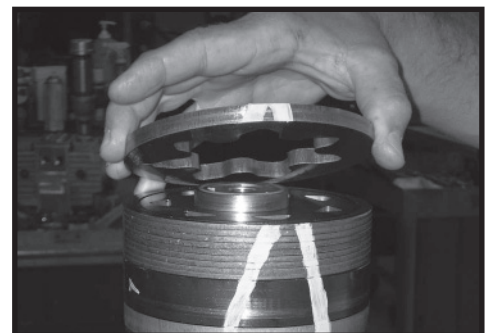

Figure 10
**NOTE: A polished pattern (not scratches) on the cover from rotation of the commutator (5) is normal. Discoloration would indicate excess fluid temperature, thermal shock, or excess speed and require system investigation for cause and close inspection of end cover, commutator, manifold, and rotor set.**
7. Remove commutator ring (6). SEE FIGURE 10. Inspect commutator ring for cracks, or burrs.